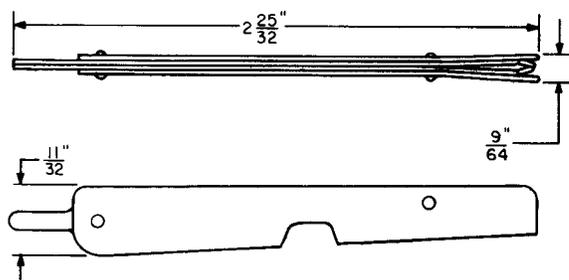

Fig. 1—357 Spring Contact Clip and Insulator Tool
2.01 **357:** The 357 spring contact clip and insulator tool (Fig. 1) is used on A- and B-type sequence switches and panel elevator apparatus.